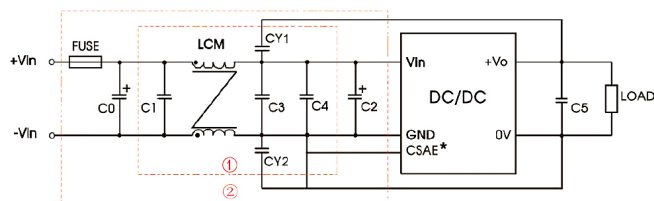

Figure 2
Part ① in the Fig. 2 is used for EMI test and part ② for EMC filtering; selected based on needs.